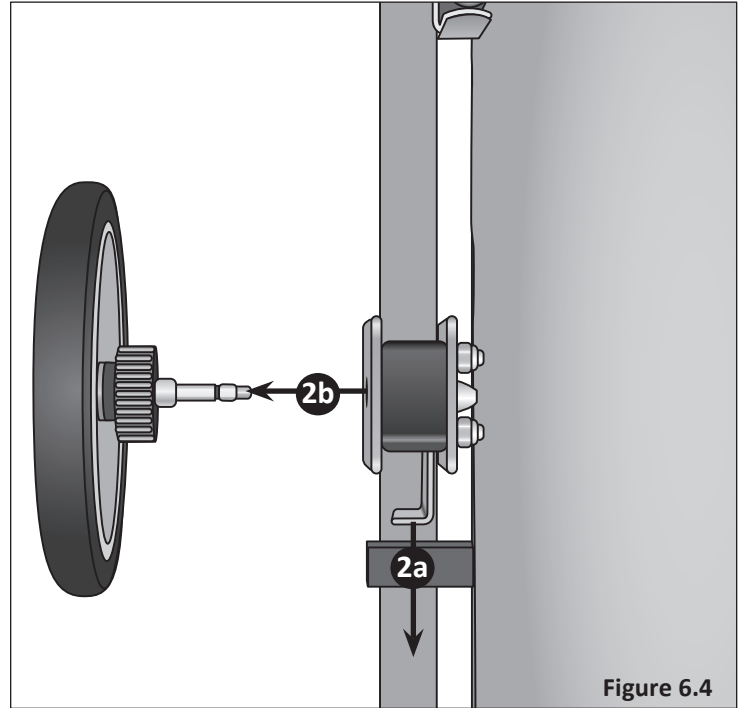

Figure 6.4
- 2 Remove the wheels by **Figure 6.4**: